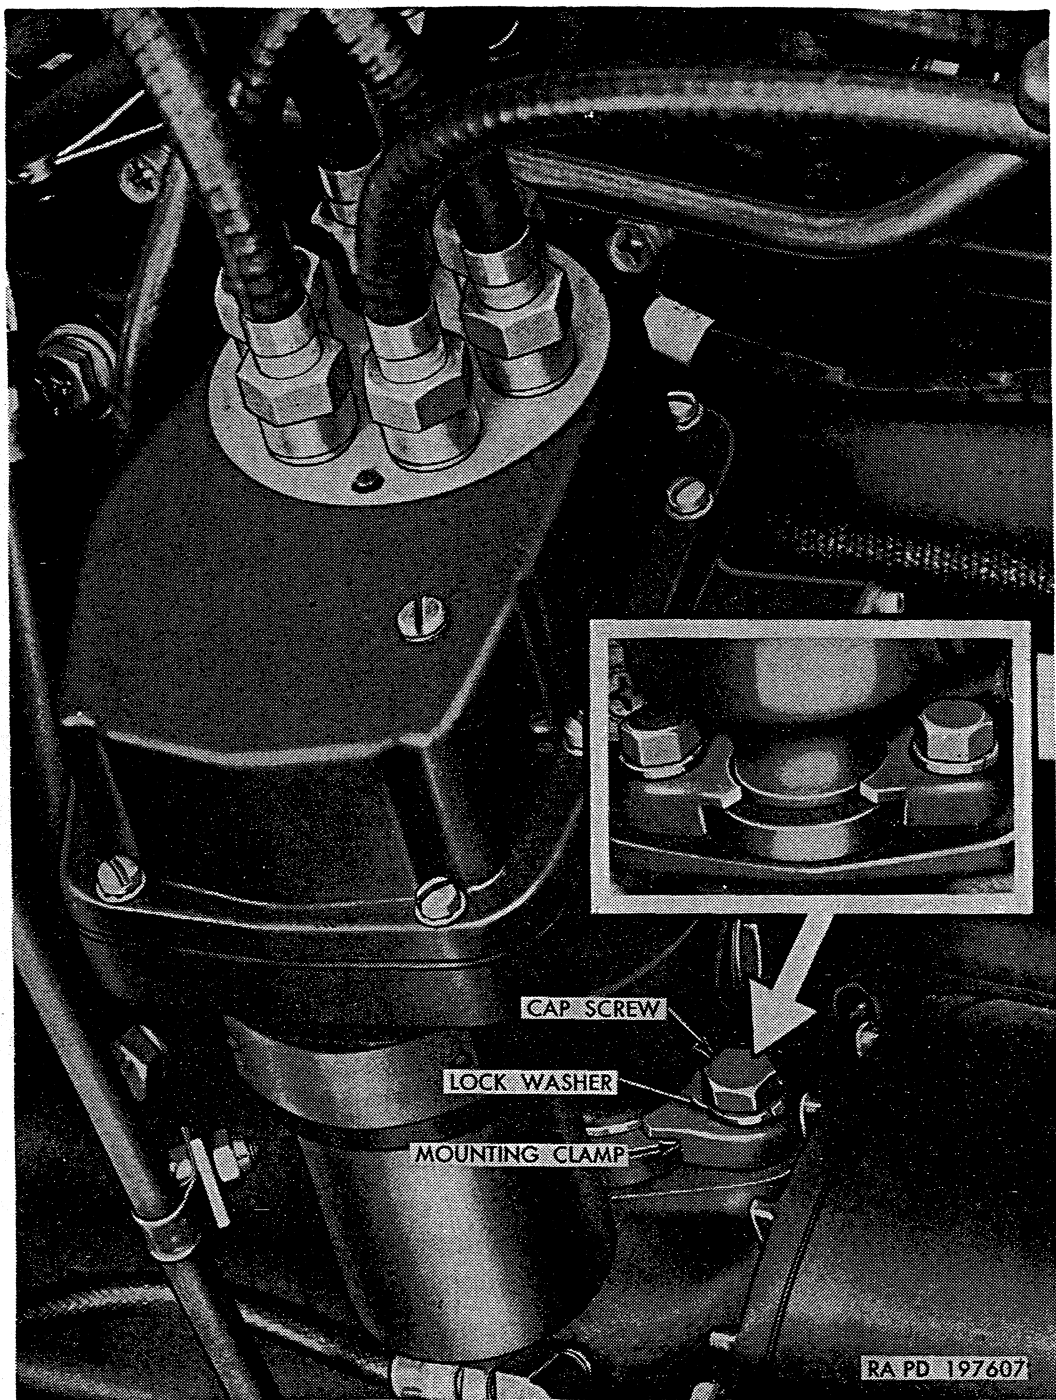
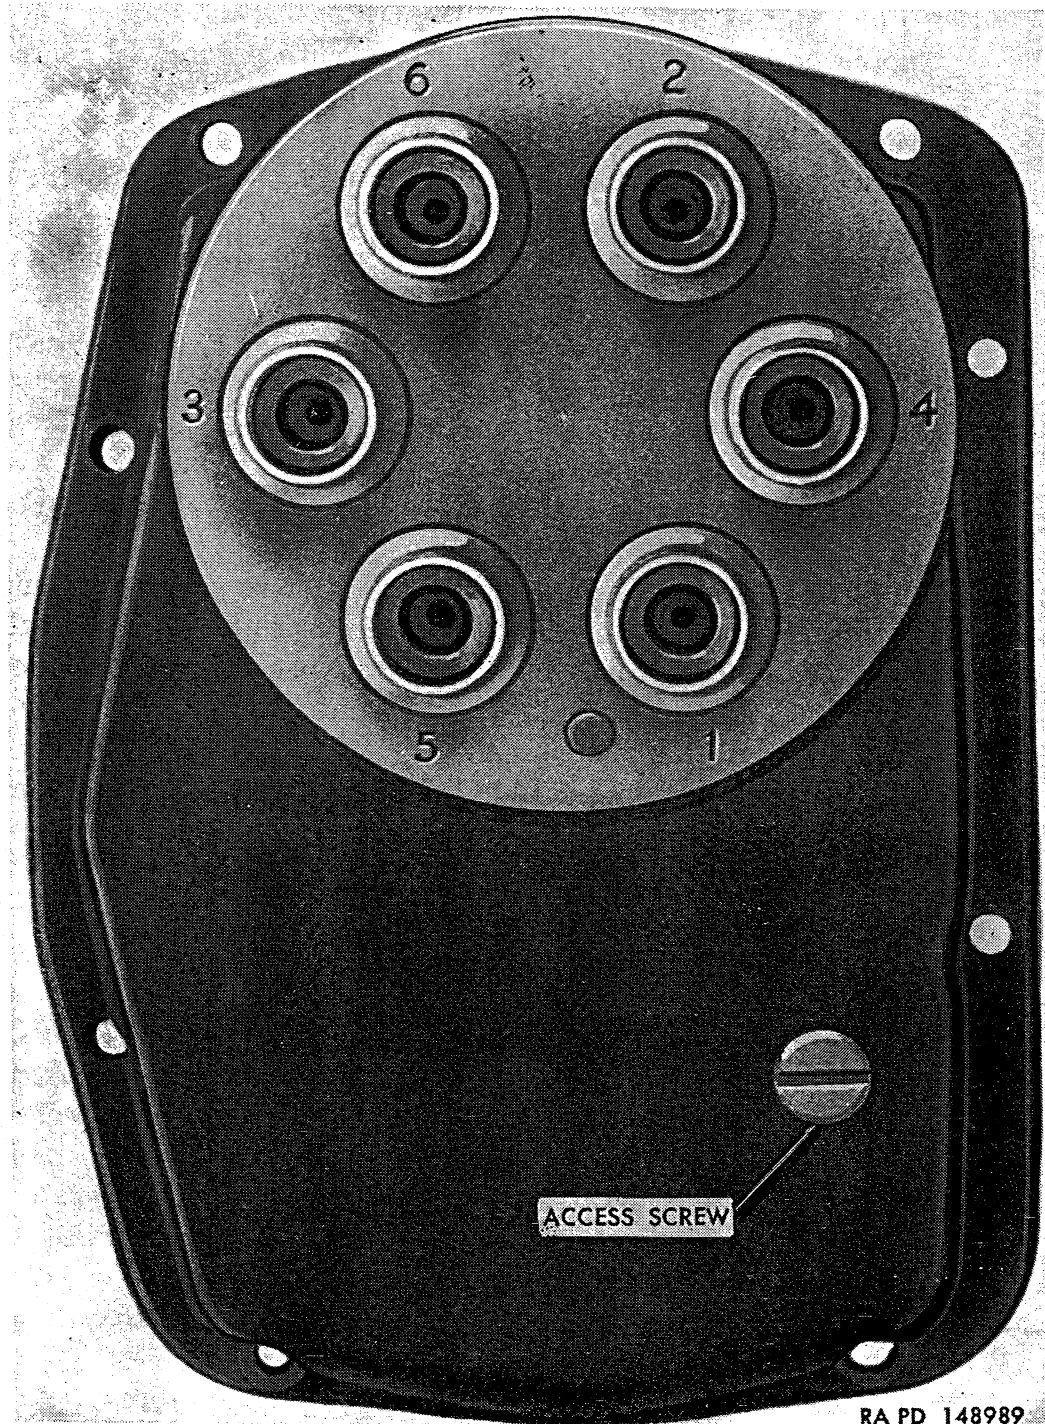

Figure 116. Distributor mounting.
Figure 120. Top view of distributor cover showing firing sequence dial.
- (7) Start engine and run at a slow idle. Direct beam of timing light toward upper edge of timing pointer (fig. 114) on timing gear cover. Timing light flashes make timing mark on crankshaft pulley appear stationary. Loosen distributor clamp cap screws (fig. 116) and turn distributor housing clockwise or counterclockwise as necessary to synchronize flashes with timing mark when it is aligned with upper edge of pointer. Tighten distributor clamp cap screws.
- (1) After engine has been thoroughly warmed up, drive the vehicle, using grade of fuel expected to be used in service. Engine should not ping or knock excessively under load and full throttle.
- (2) A slight amount of ping is not objectionable. If knock is excessive, loosen distributor clamp cap screws (fig. 116) and turn distributor housing clockwise slightly until knock is minimized. Tighten distributor clamp cap screws.
- (4) Disconnect air vent and vacuum lines from fittings at rear side of distributor housing. Remove two distributor clamp cap screws (fig. 116) and clamps attaching distributor housing to cylinder block.
- (5) Carefully lift distributor straight up out of cylinder block, observing that rotor turns clockwise a few degrees as gears disengage; mark this position of rotor on distributor housing.
- (3) Install two mounting clamps,  $\frac{3}{8}$ -16 x 1 cap screws, and  $\frac{3}{8}$ -inch lockwashers (fig. 116) securing distributor to cylin-
- (4) Check and adjust point opening (*a* above).
- (5) Install distributor cover, making sure gasket is in place and in good condition. Connect spark plug cables to distributor cover, making sure they are connected to provide correct firing order (1-5-3-6-2-4, fig. 120).
- (6) Check ignition timing and adjust if necessary (par. 122).